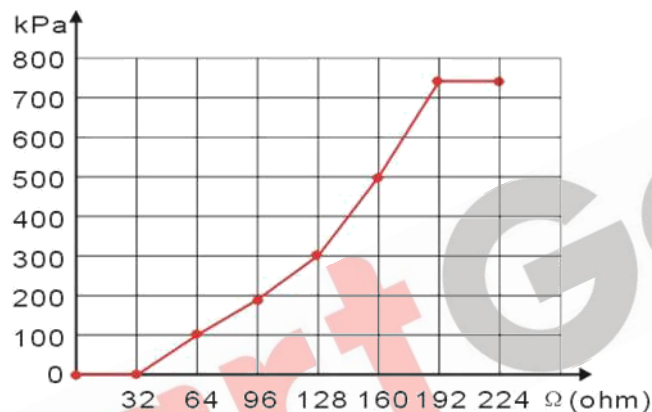

Fig. 3 Sensor Curve Graph
- It is applicable to set the headmost and backmost values in the vertical coordinate as the same as the Figure 3.